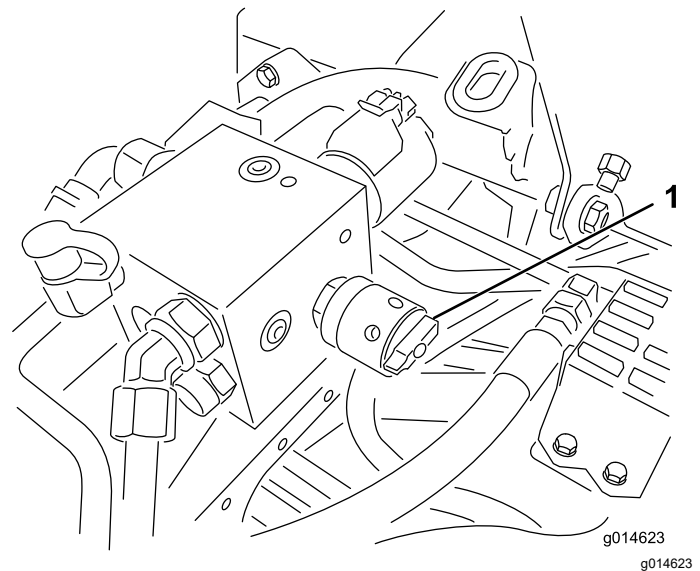

Figure 53
6. Rotate the reel-speed control to setting 1 (Figure 53).
4. Adjust the reel speed by rotating the knob (Figure 53) until the indicator arrows are in line with the number you determined in step 3.